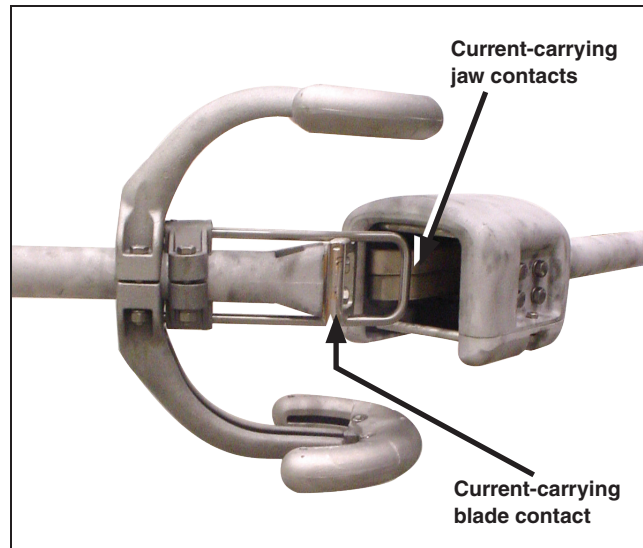
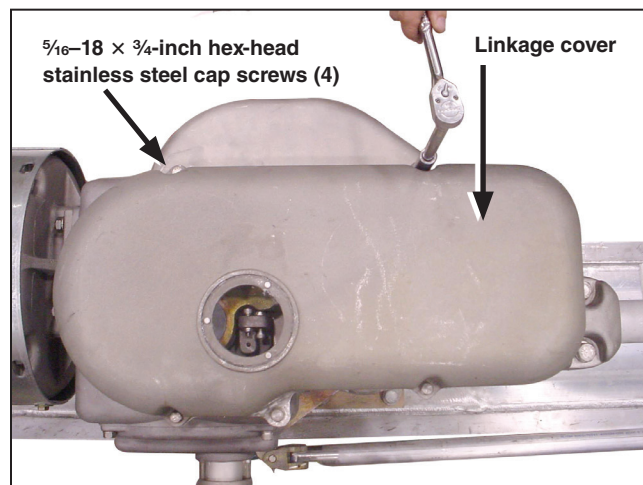

Figure 6. Position of disconnect required for performing overtravel adjustment on center-break Style Mark V or Mark IV Circuit-Switchers.
Figure 7. Removing the linkage cover.
- STEP 2.** Continue to slowly turn the manual operating handle a few more degrees, just to the point where the current-carrying tongue contacts on the terminal-end blade assemblies disengage the current-carrying jaw contacts on the interrupter-end blade assemblies. See Figure 6. With the disconnect in this position, remove the four $\frac{5}{16}$ -18 \times $1\frac{1}{4}$ -inch hex-head stainless steel cap screws and lock washers attaching the linkage cover to the top of the brain housing. See Figure 7. Retain the screws.
- On center-break style circuit-switchers:* Continue to slowly turn the manual operating handle a few more degrees, just to the point where the current-carrying tongue contacts on the terminal-end blade assemblies disengage the current-carrying jaw contacts on the interrupter-end blade assemblies. See Figure 6 on page 12.
To prevent serious injury to hands resulting from inadvertent tripping of the brain, do not adjust the latch-gap adjusting screw with the disconnect opened further than shown in Figure 4 on page 10 or Figure 6 on page 12, since the stored-energy springs in the brain may be charged.